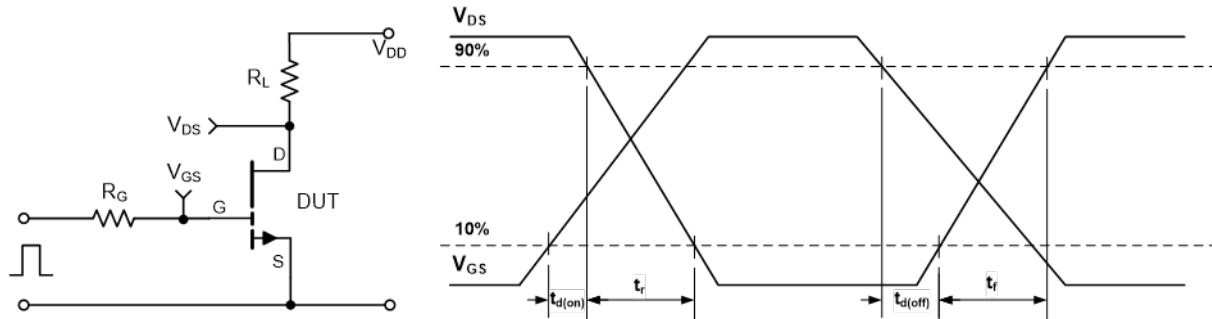

Figure 12: GS66508P switching time test circuit and waveforms
(6) See Figure 12 for timing test circuit diagram and definition waveforms